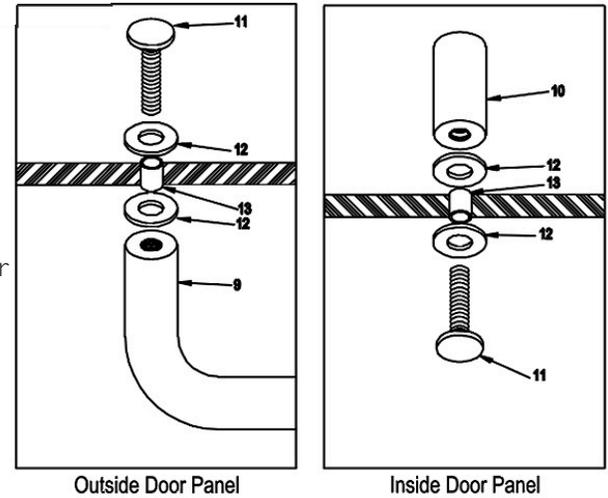

FIGURE 3
10. Cut center section of header (8) to length and assemble header using 135 degree clips (28) and 6 x 3/8" screw (14). Cut header to length and set in place over jabs, post and wall channel. Secure header to jamb and slider post with #6 x 3/8" screws (13) from INSIDE of shower. Secure 135 degree post and wall channel with #6 x 3/8" screw (14). Insert vertical seal vinyl into wall channels post and curb channels on both sides of panel.
11. Secure bumpers (4) with 6-32 x 1/2" screws (5). Raised portion of bumpers to outside at shower head side to inside at post. Center hole in jamb is slotted to allow jamb to be moved in or out to compensate for bowed glass.
12. To set slider glass in place, hold inside slider panel (16) inside of tub or shower pan. Insert rollers up into header and lower into place. Next, insert lower end of outside slider (17) in front of inside slider by pushing lower ends far enough in to allow clearance on inside edge of tub or pan. NOTE: Avoid roller bracket to roller bracket contact while lifting panel into place. The outside slider will close against the jamb opposite the shower head.
13. Place center guide (7) to center position on sill (6). Make sure the center guide is hooked into the slot position on sill (6), then snap center guide on sill.
14. Close panels and adjust to align the vertical edge of panels with jamb and post. Using a 1/4" box-end wrench, loosen the screws on the rollers, but don't remove completely. When screws are loose, adjust panel by sliding the screw in the slot. NOTE: when screws are loose be sure to support panel so it doesn't fall and break. Adjust inside slider as low as possible to reduce the gap between bottom of slider and sill taking care that the glass does not drag on the track or center guide. Adjust for bowed glass by using the slotted hole in the jamb. Secure bumpers to the jambs using 6-32 x 1/2" screw (5).
15. To install towel bar (9), place nylon towel bar insert sleeves (13) into holes in the glass (17). Next hold the tubular towel bar (9) against the hole in the glass with the nylon towel bar/pull washer (12) between the glass and the towel bar. Place a nylon towel bar/pull washer on the towel bar/pull screw (11) and secure towel bar on both ends. Install the pull the same way the towel bar was installed. Use hole in fastener to tighten (See Figure 3).